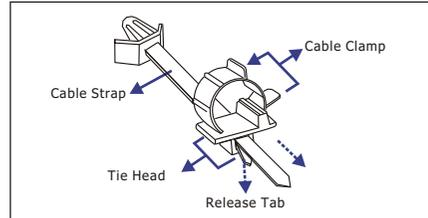

Figure 6: Inserting Cable Strap into Cable Clamp
- Step 1.** Connect the cable clamp to the cable strap. Insert the flat angled end of the cable strap through the small opening (the tiehead) underneath the cable clamp with the smooth side of the strap facing up and the ribbed side facing down and the release tab at the end. (See **Figure 6**)